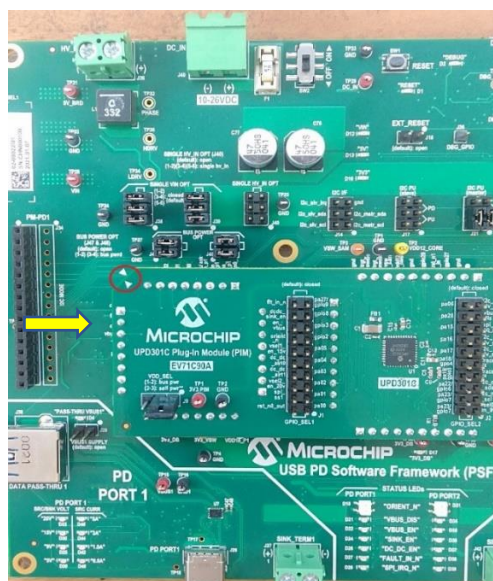

Figure 5.2 PIM Connection
2. Connect the PIM according to the silk label marking on PSF EVB as shown in the Figure 5.2.